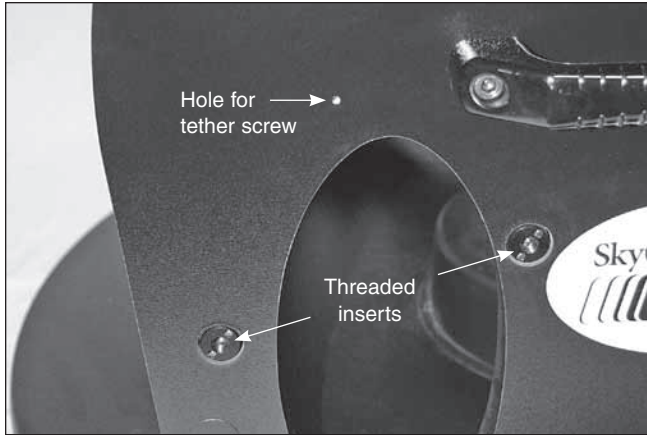
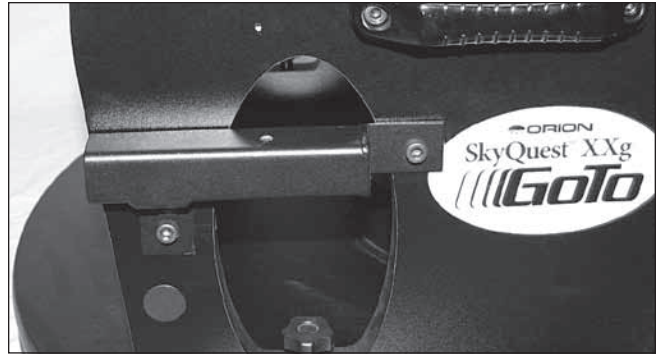

Figure 1. The handle mounting bracket attaches to the two preinstalled threaded inserts shown here. **DO NOT OVERTIGHTEN** the bolts!
Figure 2. The handle mounting bracket, installed.
2.1 **Figure 1** shows the locations of the preinstalled threaded inserts in which you will install the handle mounting brackets. Using the included 6mm Allen wrench, attach the handle brackets with the handle bracket mounting bolts (two for each bracket), as shown in **Figure 2**.